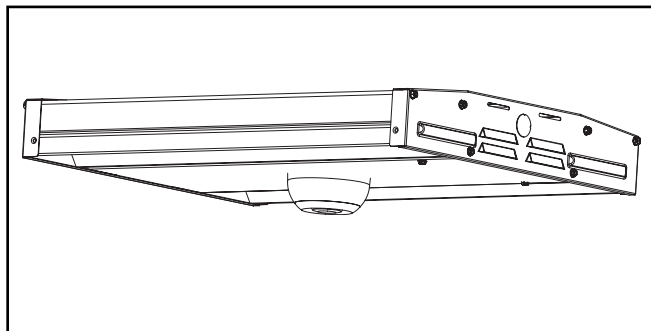

Figure 3.
3. To install, insert sensor and rotate clockwise until detent felt. (Figure 3.)